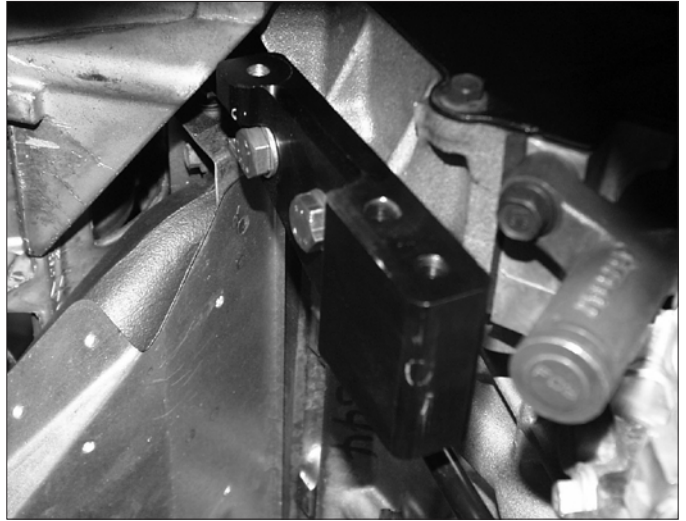

Fig. 6-2
- C. LOOSELY bolt the alternator mounting bracket to the engine block where the A/C tensioner was bolted (see Fig. 6-2).